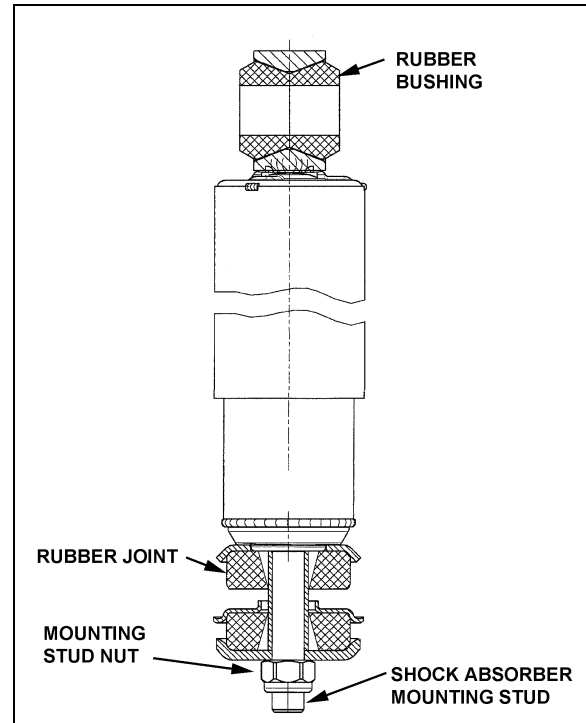

FIGURE 19: SHOCK ABSORBER
- Install the shock absorber as shown in Figure 19 with the mounting stud protruding through the hole in the mounting bracket and the shock absorber eyes over the mounting pins. Install the outer washer.